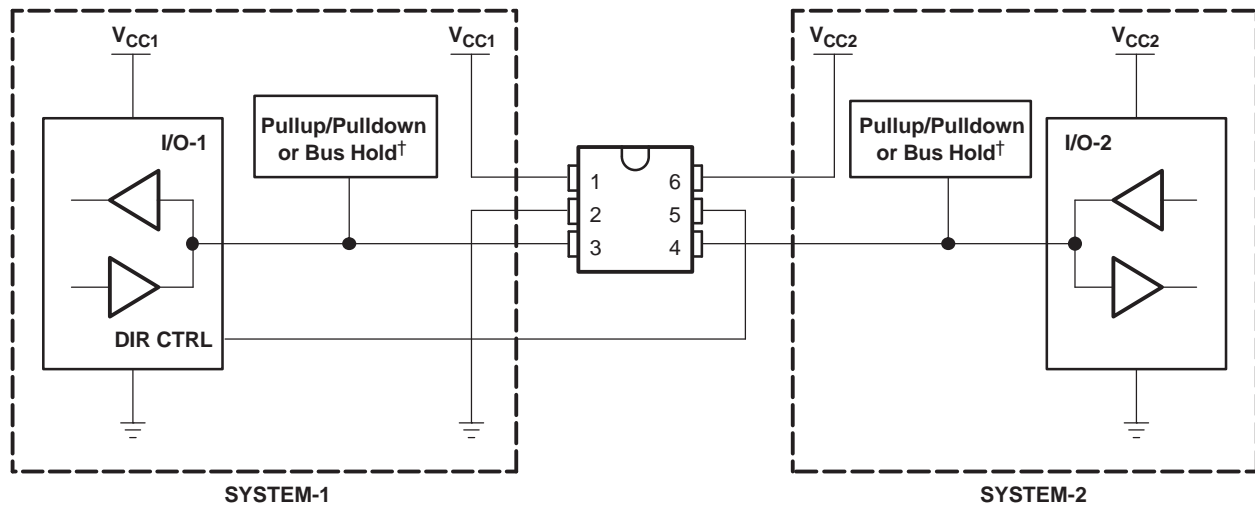

Figure 14. Bidirectional Logic Level-Shifting Application
Figure 14 shows the SN74AVC1T45 being used in a bidirectional logic level-shifting application. Because the SN74AVC1T45 does not have an output-enable (OE) pin, the system designer should take precautions to avoid bus contention between SYSTEM-1 and SYSTEM-2 when changing directions.